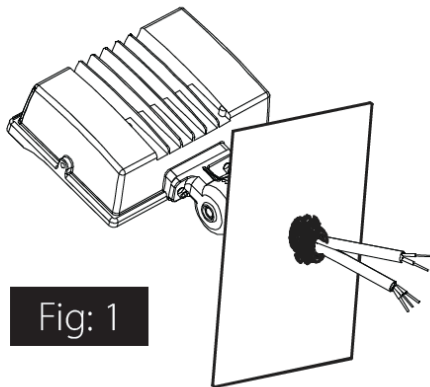

Fig: 1
1. Secure the fixture to a 1/2" NPS hole in the junction box or landscape post as shown in Fig. 1. Seal arm thread